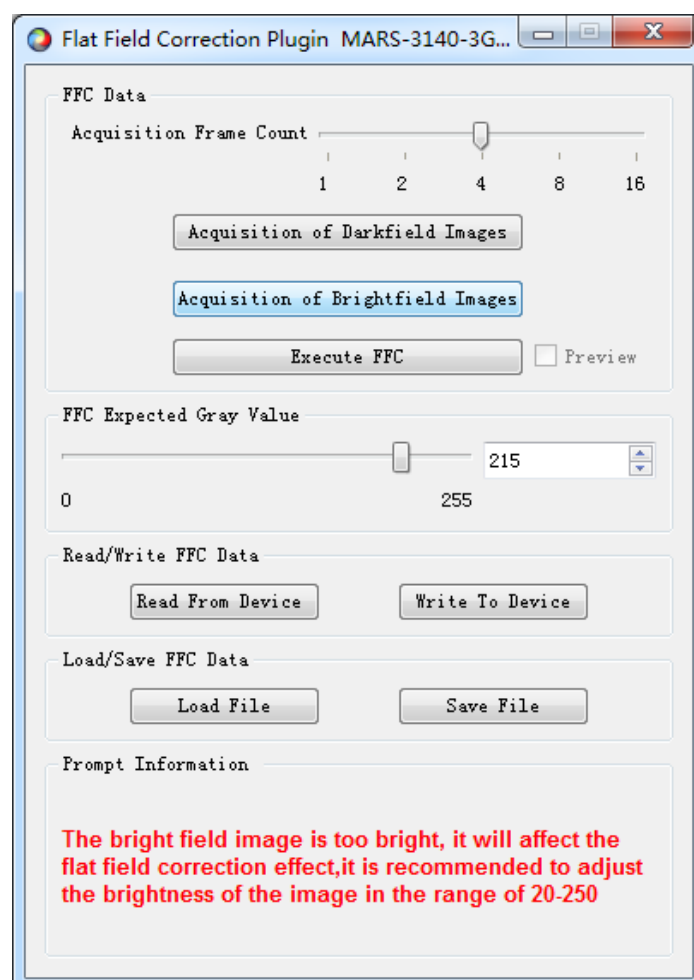

Figure 9-17 The brightfield image is too bright
- 5) If the brightness of the acquired brightfield image is greater than 250, the prompt box will prompt that the acquired brightfield image will affect the effect of flat field correction, as shown in Figure 9-17. In this case, it is recommended that you adjust the image brightness to 20 ~ 250, and then re-acquiring the brightfield image.